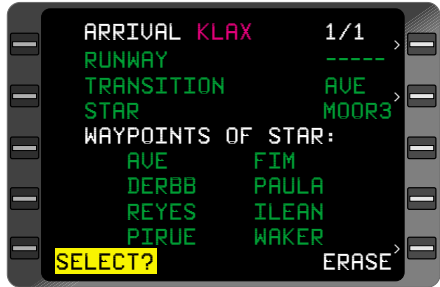

Figure 3-47
11. Arrival **STAR** Waypoints - REVIEW (Figure 3-47), then DEPRESS **ENTER** Key to insert **STAR** into Active Flight Plan and return to the **ACTIVE FLIGHT PLAN** Page.